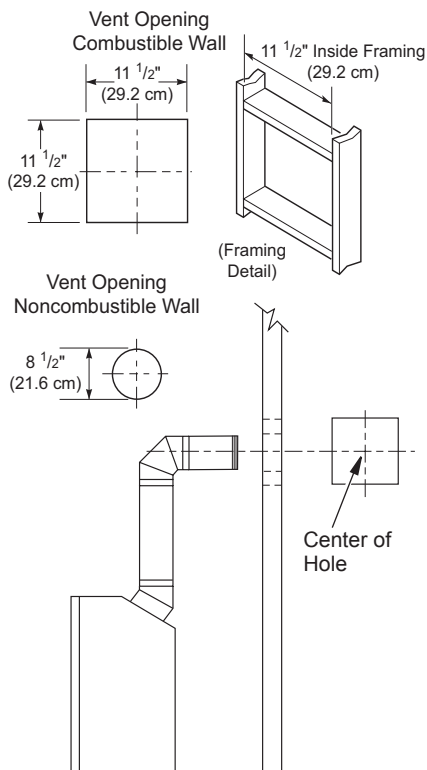
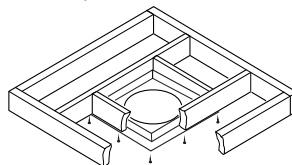

Figure 9 - Vent Opening Requirements
Figure 20 - Installing Firestop
5. Carefully determine location where vent pipe assembly will penetrate outside wall. Center of hole should line up with center line of horizontal vent pipe. Mark wall for a 11 1/2" x 11 1/2" square hole. Cut and frame square hole in exterior wall where vent will be terminated. If wall being penetrated is constructed of non-combustible material, such as masonry block or concrete, a 8 1/2" hole with zero clearance is acceptable (see Figure 9).
dimensions, as shown in Figure 9 on page 11 using framing lumber the same size as ceiling joists. If area above ceiling is an insulated ceiling or an attic, nail firestop from top side. This prevents loose insulation from falling into required clearance space. If area above ceiling is a living space, install firestop below framed hole. Firestop should be installed with no less than three nails per side (see Figure 20).
3. Cut a hole in roof using locating hole as a center point. (Cover any exposed open vent pipes before cutting hole in roof.) The 11 1/2" x 11 1/2" hole must be measured on the horizontal; actual length may be larger depending on pitch of roof. There must be a 1" clearance from vent pipe to combustible materials. Frame opening as shown in Figure 9, page 11.